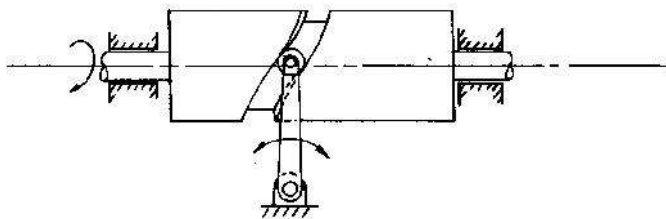

Fig. 6.2 Cylindrical cam.
b) Cylindrical cam (Fig. 6.2): The cylindrical cam has a groove cut along its cylindrical surface. The roller follows the groove, and the follower moves in a plane parallel to the axis of rotation of the cylinder.